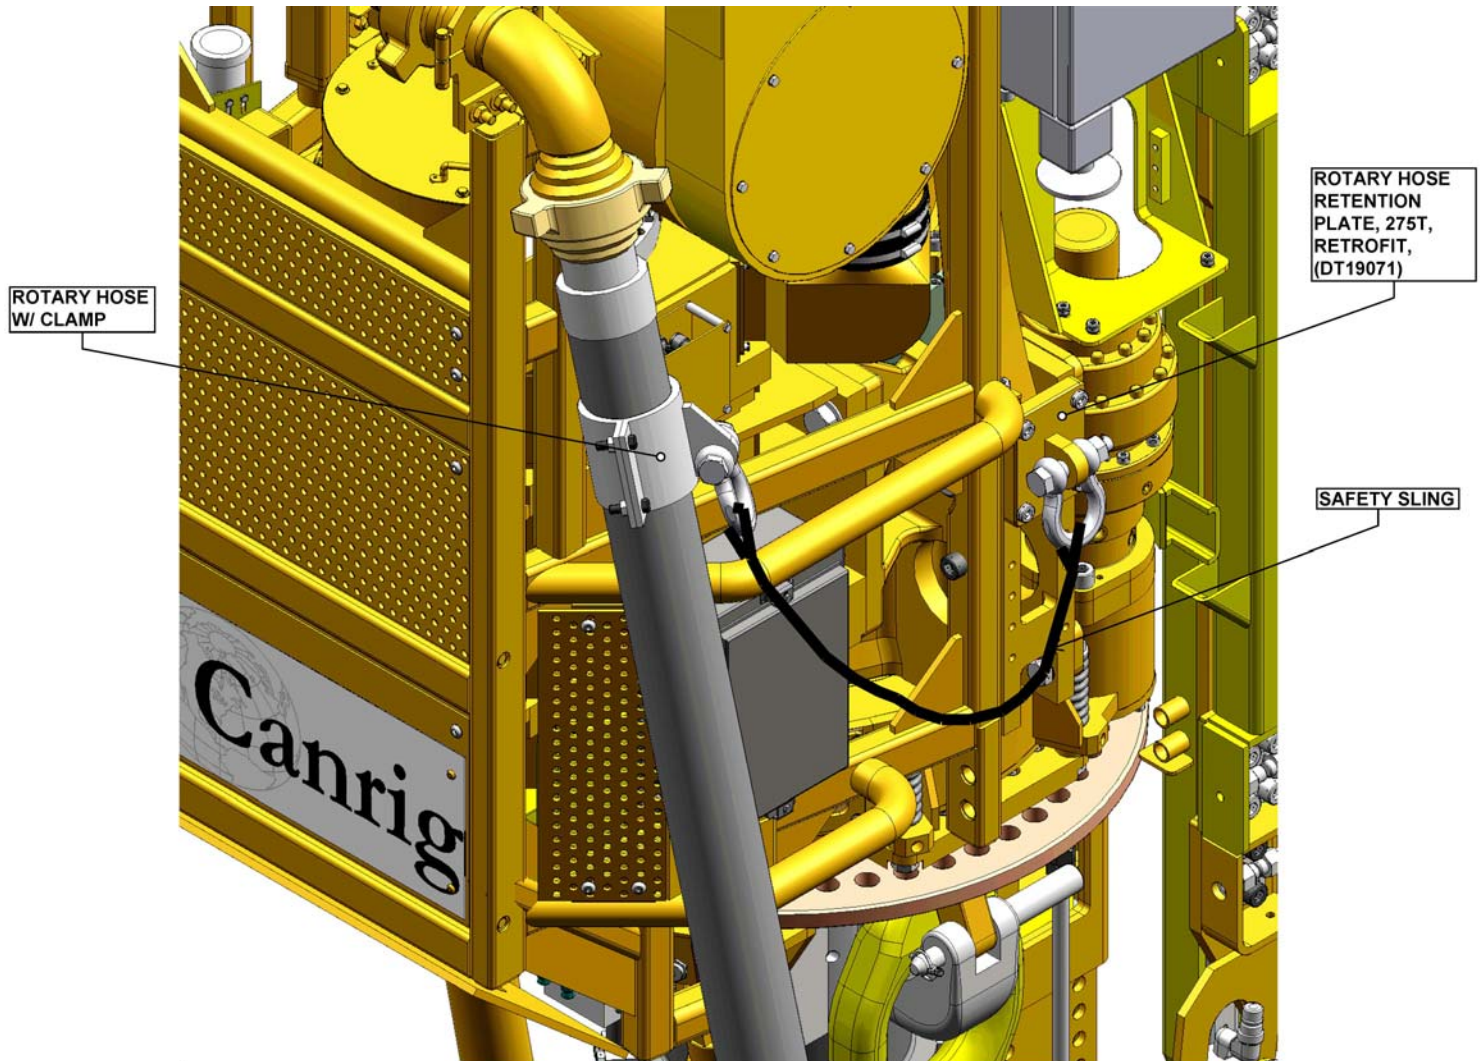

Fig. 1
1. Refer to included drawing (DT19072) for Top Drive Housing modification to drill and tap (4) holes at specified dimensional location in drawing. See Fig. 1.
2. After holes are tapped, install Rotary Hose Retention Plate (DT19071) with (4) 3/4"-10UNC x 1 1/4" (SH-0750NC-0125-W) capscrews and (4) Nordloc washers (LW-0750-NLS).
3. Torque the (4) 3/4"-10UNC x 1 1/4" (SH-0750NC-0125-W) capscrews to 350 ft-lbs and safety wire with (M21-2000-010) and (M19-3006-010).
5. Install the other of sling to shackle and attach on the Rotary Hose Clamp. Tie-wrap slings to eliminate excess slack with (E03-2000-010). Final assembly should be as shown in Fig 1.